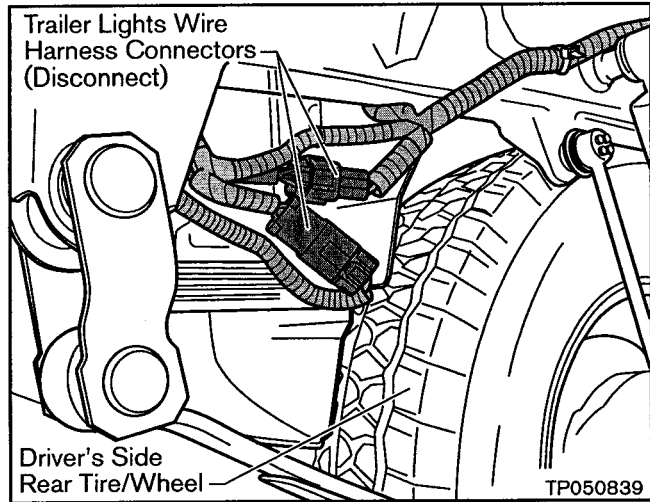

Figure 3
4. Disconnect the Trailer Lights Wiring Harness Connectors (see Figure 3).